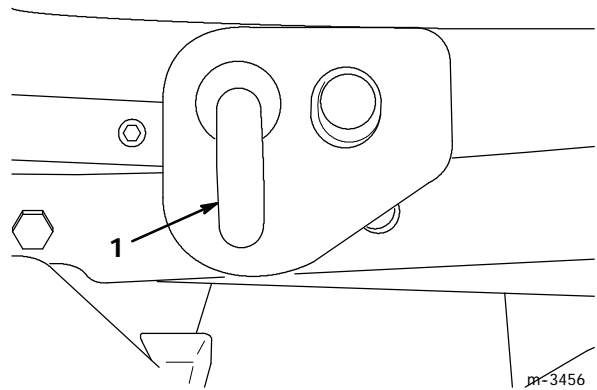

Figure 22
- Pull the two spring-loaded J-pins from the deck lift arms and twist them slightly so that they stay disengaged (Fig. 22).